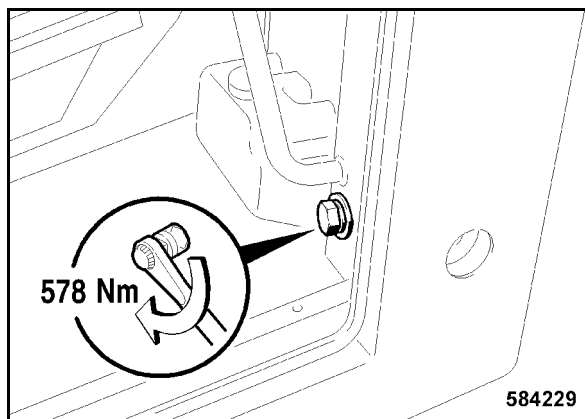

Fig. 211
- Tighten the bottom fastening screw on the access side (Fig. 211) with 578 Nm.